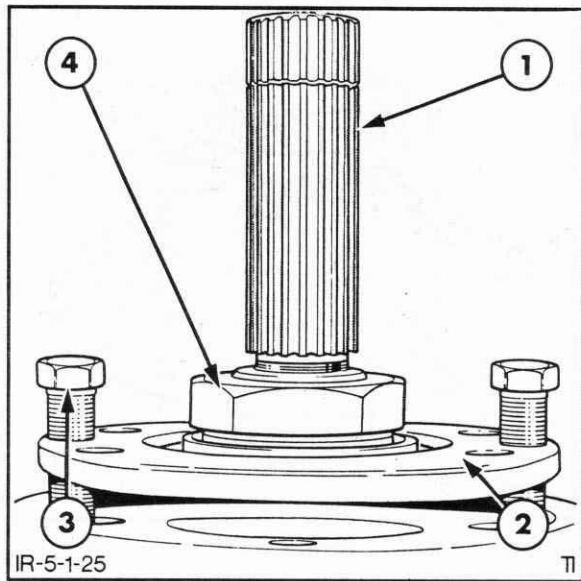

Figure 5-25
5. Install the differential lock gear case adaptor, coupling spring, sliding coupling and stop washer and retain with a new lock ring, Figure 5-25.
3. Remove the four bolts that secure the drive pinion assembly to the rear axle center housing. Utilizing two of the securing bolts as jacking screws, install them in the two threaded holes in the drive pinion retainer, Figure 5-25.